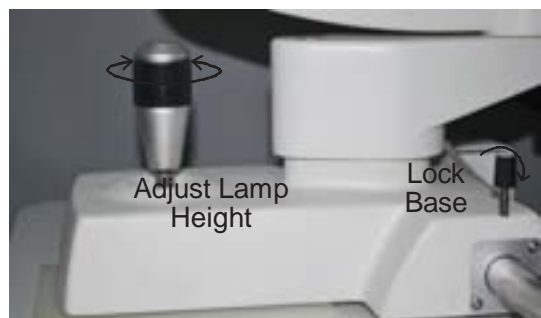

Figure 19 Adjust Height
7. Microscope elevation is adjusted by rotating the joystick and observing the slit image through the Microscope Assembly until the slit is centered on the patient's cornea. Refer to Figure 19.
10. The horizontal motion of the base can be locked by tightening the base locking screw. Refer to Figure 19.